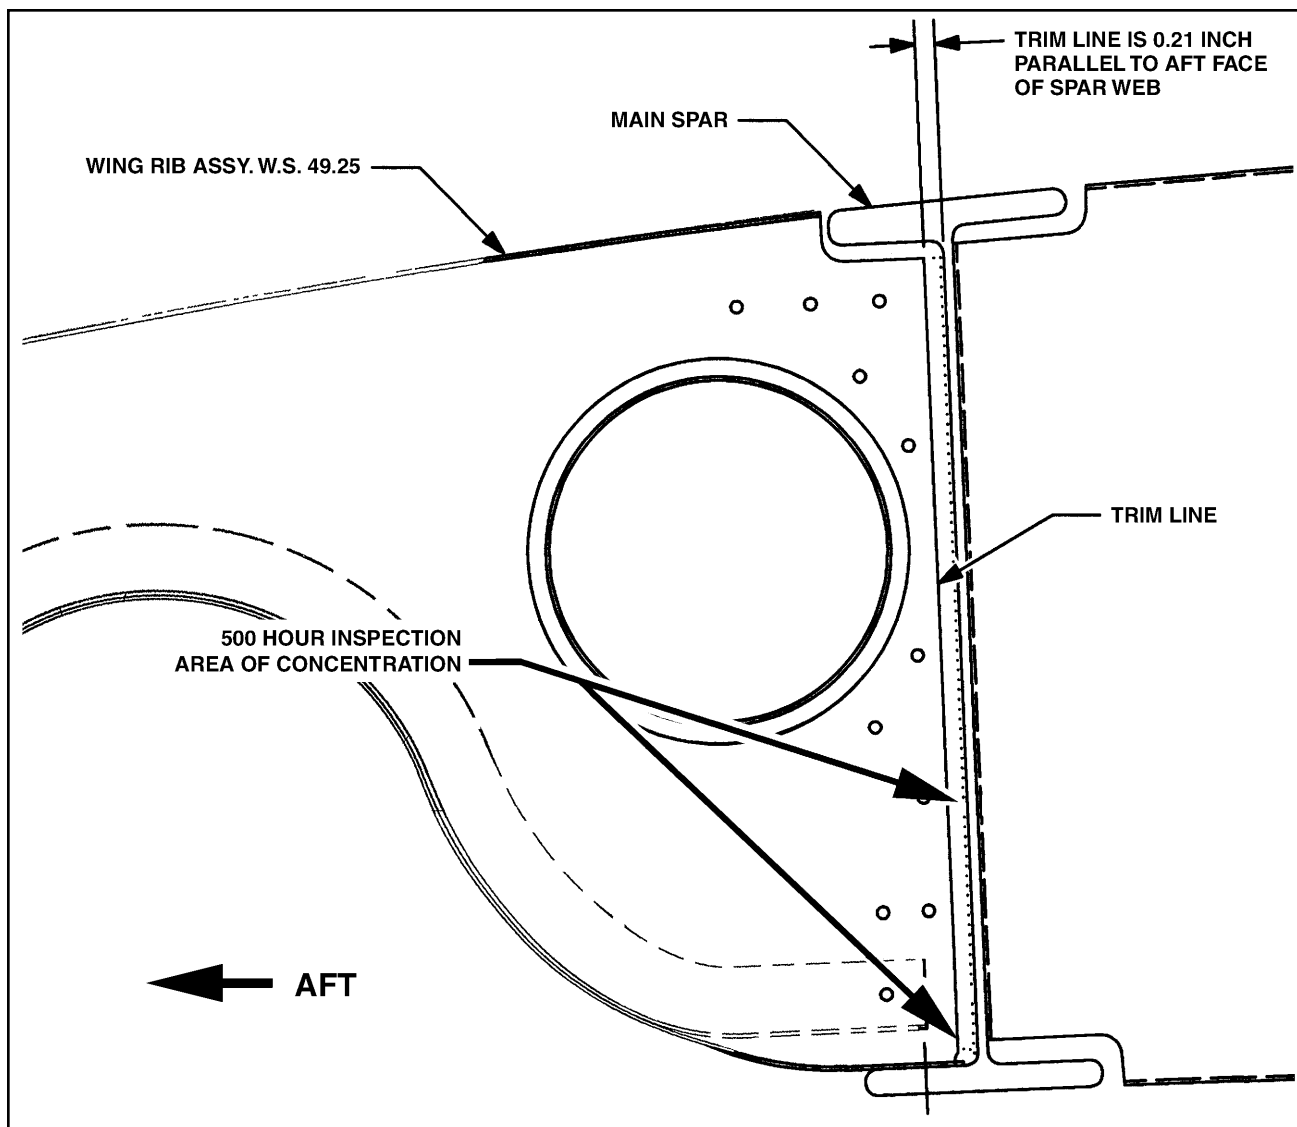

Figure 3-6. Wing Rib Assembly Inspection
The left and right rib assemblies in PA-28R-180/200's, aft of the main spar at W.S. 49.25 can, under certain conditions, crack. The cracking is typically observed vertically along the bend radius of the flange common to the main spar and the main landing gear side brace attach fitting (see Figure 3-6). Accordingly, in PA-28R-180/200's only, perform the following inspections at the intervals indicated:
- a Inspect the Aft Rib Assembly at W.S. 49.25 for any evidence of cracks (see Figure 3-6.)
- a Remove the Main Landing Gear Side Brace, by removing the five (5) bolts that fasten it to the wing structure. Retain hardware for reassembly.
- c Determine if trimming, as shown in Figure 3-6, will remove all the material affected by the crack.
- b Inspect the Rib Assembly for evidence of cracks in the bend radius of the flange common to the Main Spar Web (as shown in Figure 3-6), using dye penetrant inspection techniques.